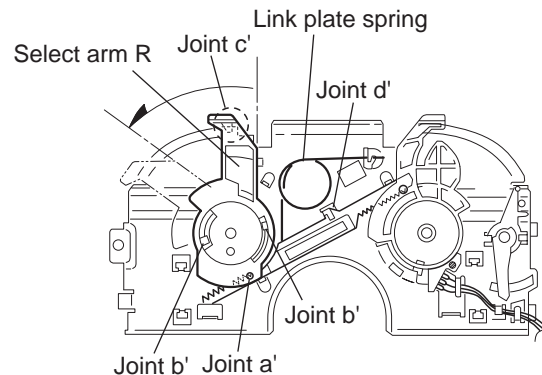

Fig.29
3.2.14 Reattaching the Select arm R / link plate (See Figs.29 and 30)